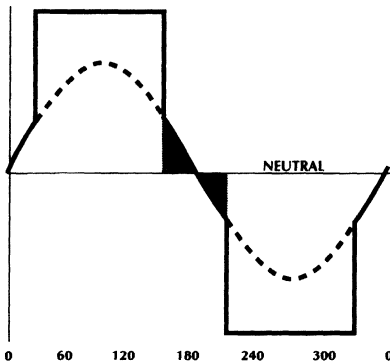

Figure 2. Typical motor phase waveform with Back-EMF superimposed (Ideal Commutation)
The ML4412 contains a patented back-EMF sensing circuit which samples the phase which is not energized (Shaded area in figure 2 below) to determine whether to increase or decrease the commutator (VCO) frequency. A late commutation causes the error amplifier to charge the filter (RC) on pin 20, increasing the VCO input while early commutation causes pin 20 to discharge. Analog speed control loops can use Pin 20 as a speed feedback voltage.